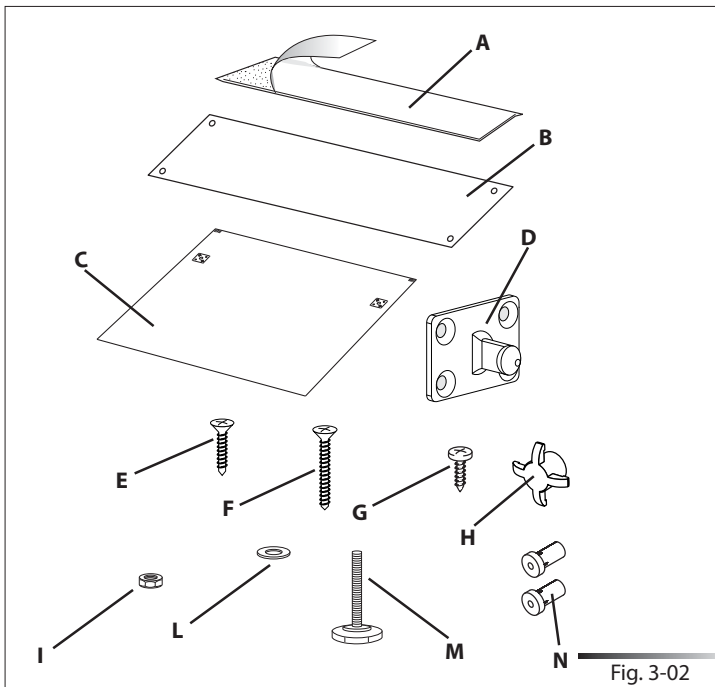

Fig. 3-02
- adhesive steam guard (ref. A fig. 3-02);
- 1 steel steam guard (ref. B fig. 3-02);\*
- 1 template for door panel (ref. C fig. 3-02);
- 2 hooks for door panel (ref. D fig. 3-02);
- 8 screws for securing the door panel hooks (ref. E fig. 3-02);
- 2 screws for securing the door (ref. F fig. 3-02);
- 2 screws for fixing the dishwasher to the adjacent walls (ref. G fig. 3-02);
- 2 screw caps (ref. H fig. 3-02).
- 2 nuts (only for some models) (ref. I fig. 3-02);
- 2 washers (only for some models) (ref. L fig. 3-02);
- 2 adjustment feet (only for some models) (ref. M fig. 3-02).
- 2 door spacers (only for certain models) (ref. N fig. 3-02)